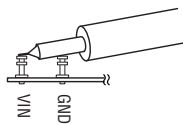

Figure 2. Measuring Input or Output Ripple
**NOTE:** When measuring the input or output voltage ripple, care must be taken to avoid a long ground lead on the oscilloscope probe. Measure the input or output voltage ripple by touching the probe tip directly across the  $V_{in}$  or  $V_{out}$  and GND terminals. See Figure 2. for proper scope probe technique.